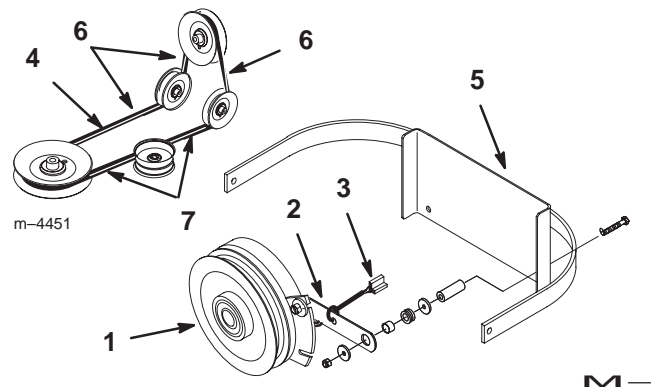

Figure 62
2. Remove the clutch retaining strap from machine frame and unplug clutch terminal from wire harness (Fig. 62).
3. Remove PTO drive belt from rear idler arm and front idler pulley assembly. Remove the PTO drive belt (Fig. 62).
4. Place new drive belt over clutch, around rear idler pulley, installed into rear idler arm assembly, installed into front idler pulley assembly and onto top center pulley (Fig. 62).
Important Check the amount of twist in belt between pulleys. Make sure it is only what is specified in figure 62.
5. Install clutch retaining strap and plug clutch terminal into main wire harness (Fig. 62).